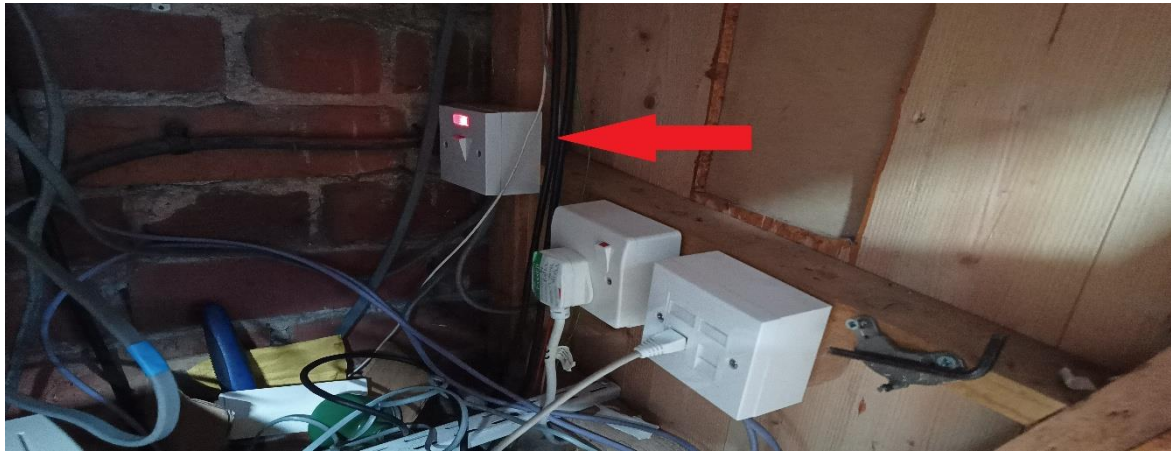

Fig. 1 Main Power Switch (shown here on), when OFF the red neon will go out.
13) Finally switch OFF the main power switch under the control panel (see Fig.1). This will then leave just the (red/white) dome wall LED lights on.